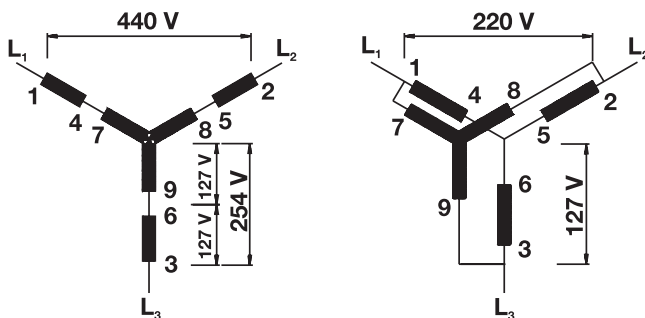

Figure 3.1a - Series-parallel connection Y
- By connecting the two halves in parallel, the motor can be supplied with a voltage equal to one half of the previous voltage, without affecting the voltage applied to each coil. (refer to examples given in figures 3.1a and b).
This type of connection requires nine terminals on the motor. The most common dual voltage system is 220/440 V, i. e. the motor is parallel connected when supplied for 220 V, or alternatively, it is series connected when supplied for 440 V. Fig. 3.1a and 3.1b show normal terminal numbering, as well as connection diagrams for this type of motor - both for star or delta connected motors. The same diagrams apply to any other two voltages, provided that one is the double of the other, e.g. 230/460 V.